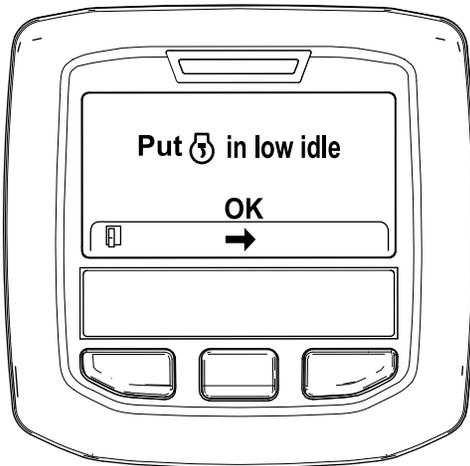

Figure 45
6. Move the throttle control to LOW IDLE and press the center button (Figure 45).